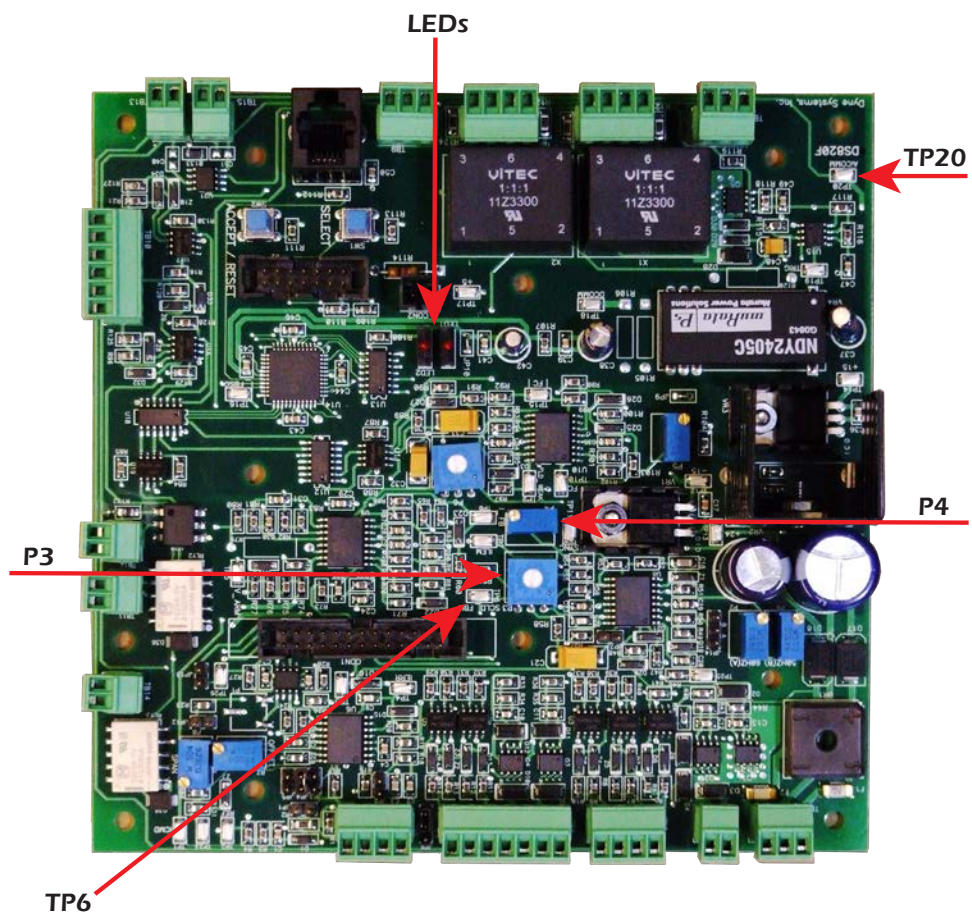

Figure A.1 - DS820F Main Circuit Board
2. Turn potentiometer P3 (Figure A-1) on the DS820F board fully counter-clockwise (minimum field current setting).